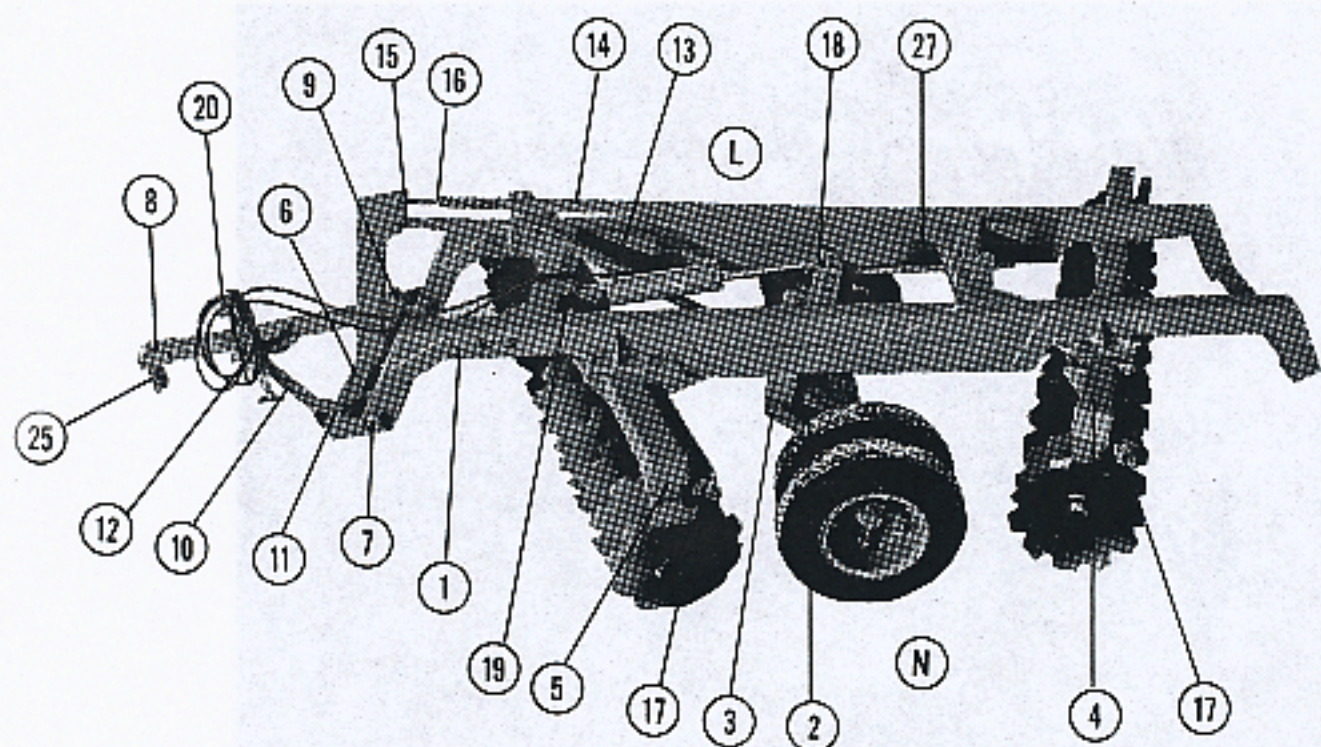

Figure 1
1. To Install Wheel Carriage and Wheels: (Refer to Figure 1) Place wheel carriage(2) under the main frame(1) and attach frame with pins(3). Install 5/16 x 2 lock bolts in pins and tighten lock nuts securely. Install wheels on to hubs with wheel bolts provided and tighten securely.
2. To Attach Gang Bars to Frame: (Refer to Figure 1) Bolt rear gang bar(4) to main frame(1) in center set of offsetting holes and in next-to-maximum angle with 1 1/4"x4 1/2" bolts. Install leveling washers on top of angling plates on long side of disc(L). Install leveling washers between gang bar and angling plates on narrow side of disc(N). Bolt front gang bar(5) to main frame in next to maximum angle with 1 1/4"x4 1/2" bolts. Install leveling washers same as rear gang.
3. To Attach Hitch Bridle to Frame: (Refer to Figure 1) Place bridle(6) at front of frame(1) and attach with pins(7). Install lock bolts and tighten nuts securely.
4. To Attach Hitch Pole to Bridle: (Refer to Figure 1) Attach main hitch pole(8) to bridle(6) at lead corner(9) with 2"x10" bolt. Attach hitch side arm(10) to opposite side of bridle(11) with 1 1/4"x7" bolt. Join hitch pole and side arm with 1 1/4"x7" bolt. Tighten all bolts securely.
5. To Attach Fore-Aft Levelling Assembly: (Refer to Figure 1) Install short tube(13) to wheel carriage with 1" pin. Install long tube(14) with 1" pin. Slide short fore-aft eye bolt(15) into bottom tube(13) (pinned to wheel carriage) and pin to bottom hole of bridle mast(8). Slide long fore-aft eye bolt clw spring and washers into top tube(14) (attached to main frame) and pin to top hole of bridle mast(6).
6. To Attach Scrapers: (Refer to Figure 1) Attach scraper bars(17) to gang bars (4 & 5) with bolts provided. Attach scrapers to scraper bar with clamps and bolts provided use care to adjust scrapers close to discs but not rubbing.
1. **Hydraulic Cylinder and Hoses:** (Refer to Figure 1) A 5" x 20" stroke double acting hydraulic cylinder is required to lift disc. Two 19 ft. hydraulic hoses are needed to allow full offsetting and turning without hose damage.
2. **Angle Changing:** (Refer to Figure 1) To change angle. Raise disc on wheels until discs are clear of ground. Remove bolt(21) and loosen the three remaining bolts. Slide gang bar forward or backward as desired. Replace bolt and tighten all bolts securely. For ordinary conditions set both front and rear gangs in next to maximum angle. Increase angles as required to suit conditions.
4. **Offsetting The Hitch:** (Refer to Figure 1) This unit is designed to trail straight behind the tractor. Minimum side draft will be obtained when the hitch is in line with outside beam of main frame. If more adjustment is required adjust side arm to required hole position.
5. **Hitch Height:** (Refer to Figure 1) The hitch pole should always be as near level as possible when discing.
- A. **Front to Rear:** (Refer to Figure 1) With disc raised and hitch to tractor, adjust bottom fore-aft eye bolt(15) until main frame is level. Adjust fore-aft spring lock(16) until spring is snug. The top spring should be under some compression when discing, but should never be compressed solidly. **NOTE:** In general use as little pressure as possible when discing.
7. **Transporting:** (Refer to Figure 1) Disc may be transported without using hydraulic cylinder. Place the rod(27) through the hole in anchor on frame(1) and place clevis over transport block. Raise the disc until the cylinder has reached the end of its stroke. Insert pin in clevis and adjust transport rod nut until there is about 1/4" between nut and transport anchor. Release pressure on hydraulic cylinder and remove. **CAUTION:** Extreme care should be taken not to collapse the cylinder too much with the transport rod in transport position.